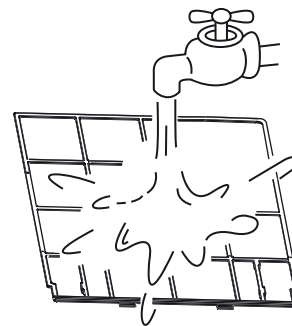

Fig.6-3
- *The air-in side should face down when using water. (Refer to Fig 6-3)*